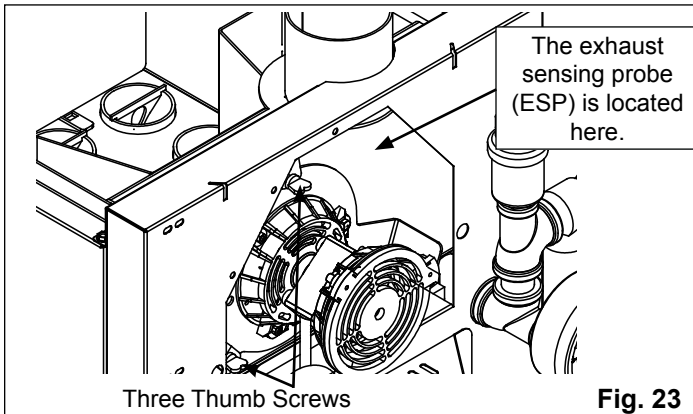

Fig. 23
Loosen the three (3) thumb screws about 4 turns each. See Fig. 23. Hold the motor head with one hand and the blower plate handle with the other hand. Pull outward on the plate handle until the complete unit comes loose. Now rotate the plate counter-clockwise about 1/8 turn. This will allow the complete assembly to be removed from the blower chamber.
**NOTE:** The exhaust probe sensing tip extends into this same area. CARE MUST BE TAKEN NOT TO DAMAGE THE ESP DURING CLEANING. Bending of the ESP will make it difficult to remove if it should become necessary. See Fig. 23.